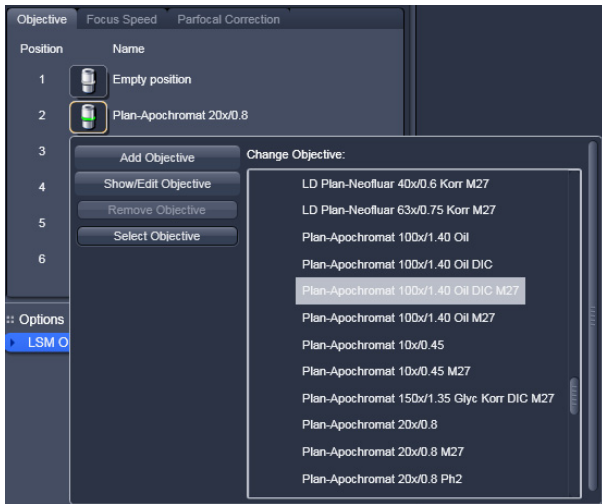

Fig. 5-123 Add Objective window – Potential Objectives
- Click on the **Add Objective** button on the **Change Objective** window (Fig. 5-123).